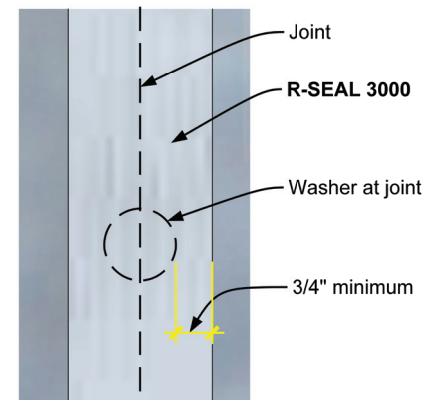

Figure 6
H. Joint Fasteners: Fully cover with R-SEAL 3000 to maintain a minimum of 3/4" adhesion to facer beyond washer edges. **Reference Figure 6.**
I. Field Fasteners: When NOT using Trufast Walls Thermal-Grip®ci Prong Washers and Grip-Deck® Self-Drilling Screws, field fasteners must be covered by R-SEAL 3000. Maintain a minimum 3/4" adhesion radially beyond washers, similar to **Figure 6.**